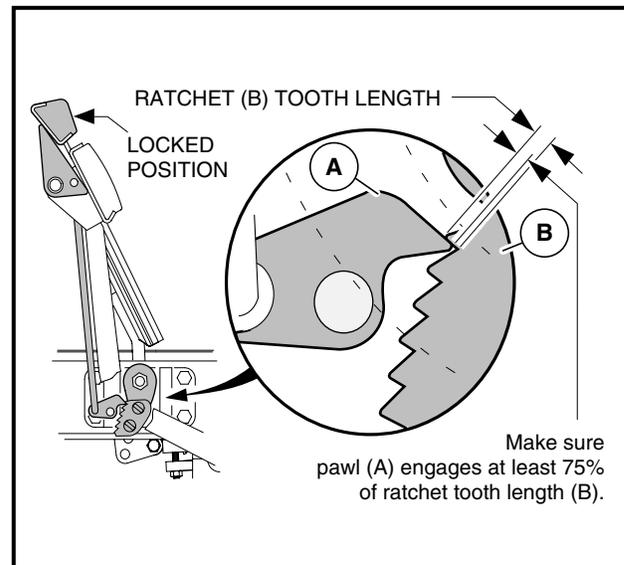

**Figure 5-27 Park Brake Ratchet/Pawl Gap Adjustment**
- 4.2. Adjust retaining nut (7) on spring support rod until there is a 0.060 inch (1.5 mm) gap between the pawl and the tips of the ratchet teeth. Use a feeler gauge to verify the gap (**Figure 5-27, Page 5-19**). The gap should be consistent through range of pawl movement. If the gap is not consistent, loosen the four bolts (6) securing the accelerator pivot rod supports and adjust the supports. If the gap becomes smaller as the park brake pedal is pressed, move the pivot rod supports slightly rearward until the gap is consistent. If the gap becomes larger as the park brake pedal is pressed, move the pivot rod supports slightly forward until gap is consistent.